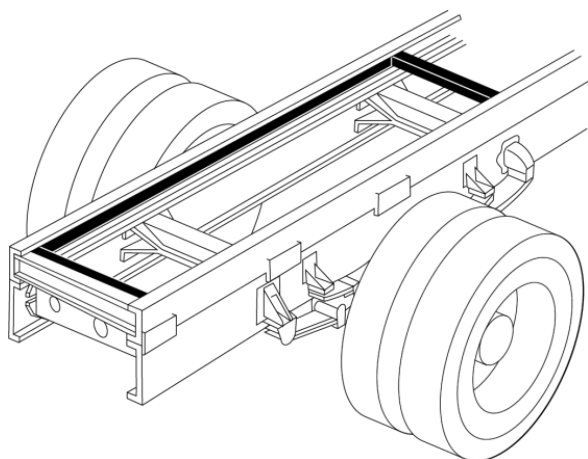

Figure 2: Short sub-frame example
- If mounting a suitably light VMLS on heavy or reinforced sections, such as a chassis used with a tandem rear axle group, a short sub-frame can be used with provided stress calculations for the chassis are performed to ensure requirements are addressed (see Figure 2).